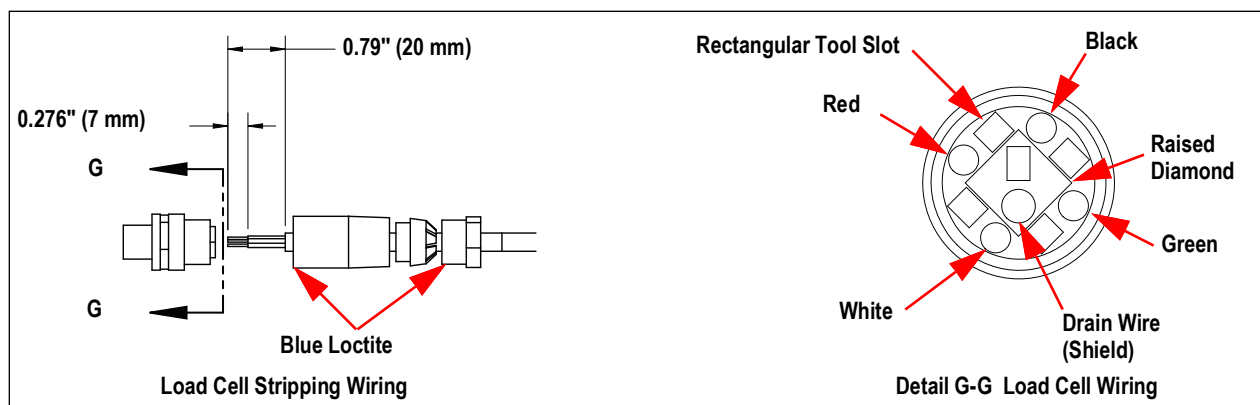

Figure 4-22. Load Cell Wiring
10. Strip the wires for connection to the new load cell connectors. See Figure 4-22.
12. Wire the load cell 5-pin male connector to the following color codes Table 4-12 and Figure 4-22. Note the orientation of the raised diamond in Figure 4-22. Use the supplied tool in the rectangular tool slot to lock wires down.
13. Add blue Loctite® 425 to the two contact points as indicated in Figure 4-22.